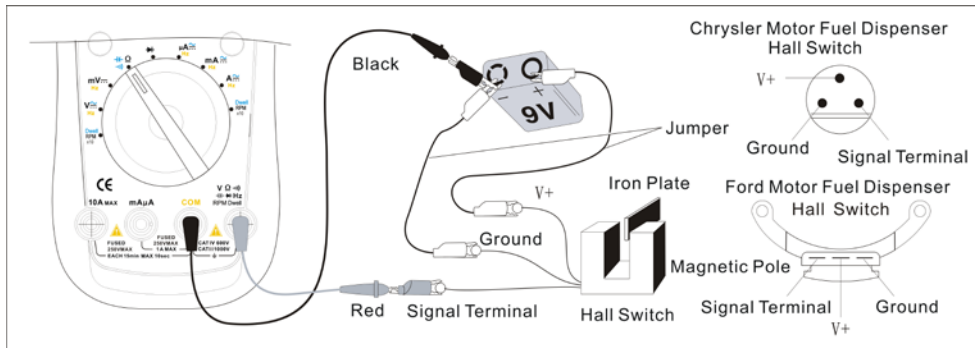

Figure 18
3. Hall Switch/Sensor Testing (see figure 18)